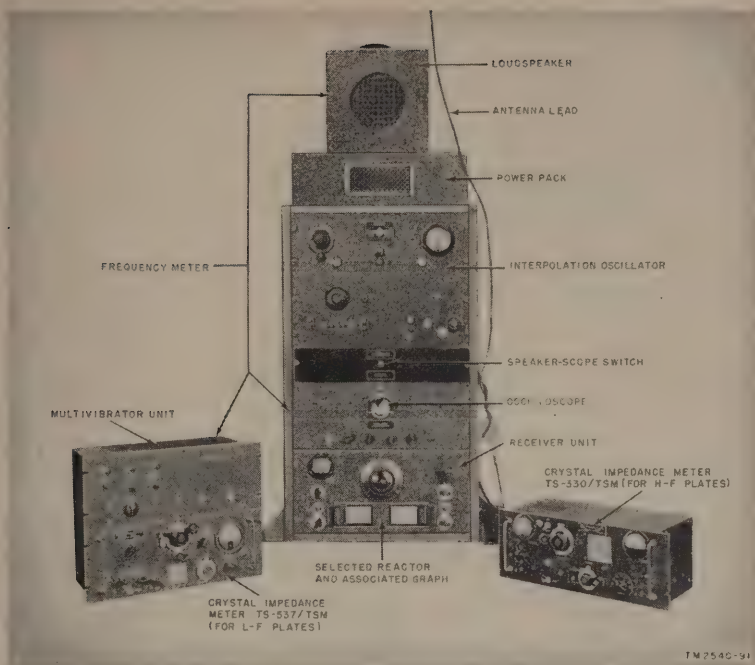

Figure 6. Crystal resistance and frequency measuring equipment.
The frequency of crystal units can be determined accurately by coupling the CI meter to a standard frequency test rack (fig. 6), Frequency Measuring Assembly CY-93/FSM-1, or similar frequency
- (3) In actual use, neither the series resonant nor antiresonant frequency may be known; this information, however, is not necessary. The circuit of the crystal impedance meter (connected to appropriate frequency measuring equipment, figure 6) is tuned first to the approximate frequency; then, by alternate adjustment of the value of the substitution resistance and of the circuit tuning, the correct frequency and value of resistance are obtained. Generally, adjustment must be made only two or three times before complete satisfaction of the boundary conditions is attained. These adjustments may be compared with the resistance and reactance adjustments performed in balancing and impedance bridge.